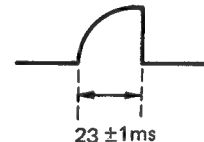

Figure 8-15.
3. Monitoring TP1 with an oscilloscope (internal trigger), adjust R751 so that the requirement given in Figure 8-15 be met.